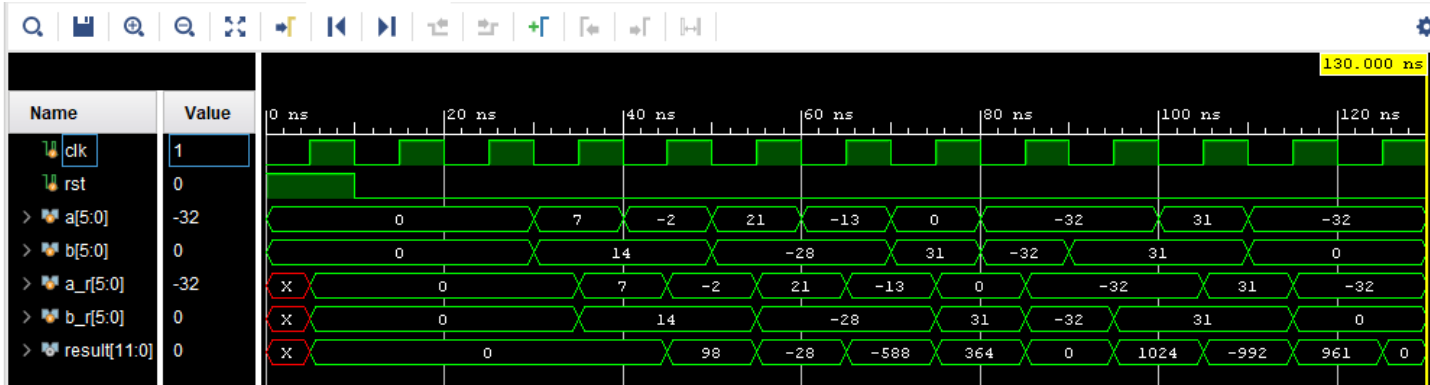

Fig. 4: Simulation waveform for non-pipelined multiplier
- The waveform window should look like Fig 4. Note the registered signals are aligned to the clock and the result is delayed by 1 clock cycle.